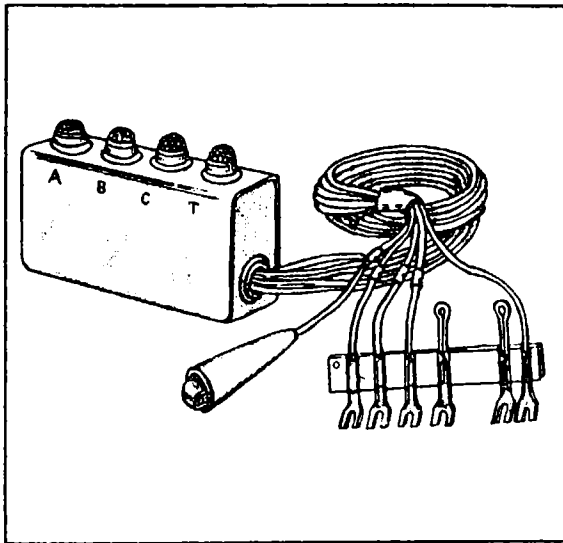

Figure 13-12. Circuit Analyzer
a. The model 979 heater Circuit Analyzer, Part Number ST-890264 (Refer to Figure 13-12.), is a multiple test light unit, designed for checking the operation of the electrical circuit of the South Wind Heater Model 979. Using this analyzer, it is possible to check completely the operation of the heater in the airplane without making it necessary to remove the heater except for major repairs. The jewel lights give a constant visual indication of the conditions existing in the heater during a shop test or while in flight.